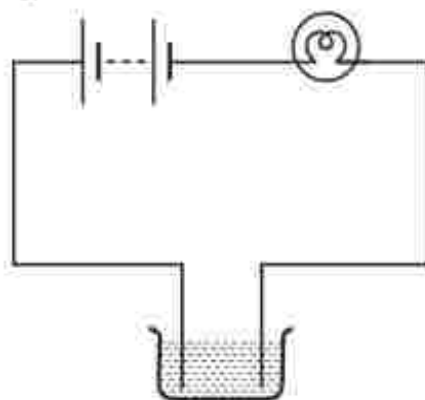

Fig. 11.10
4. The bulb does not glow in the setup shown in Fig. 11.10. List the possible reasons. Explain your answer.